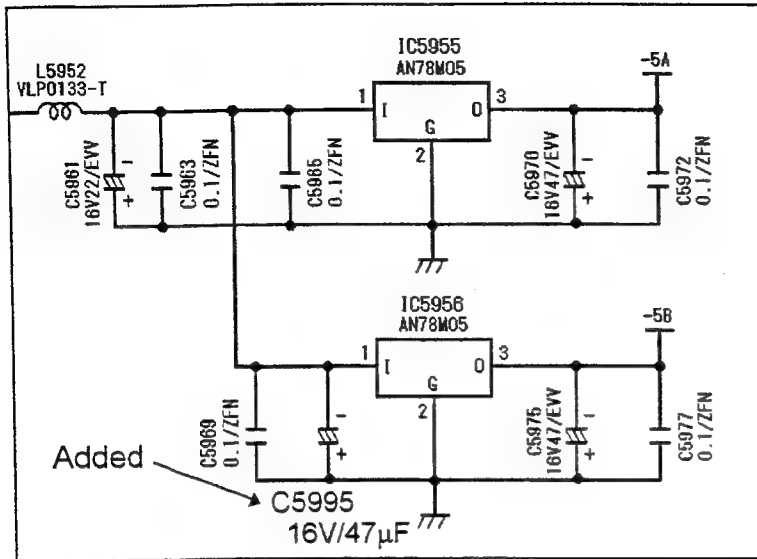

Fig. 1 Page 2-173 (E-5) - AJ-D750
- 1). Add a capacitor C5995 (16V/47 μ F) between terminals I (plus side) and G (minus side) of IC5956 on the component side as shown in figures 1 and 2.